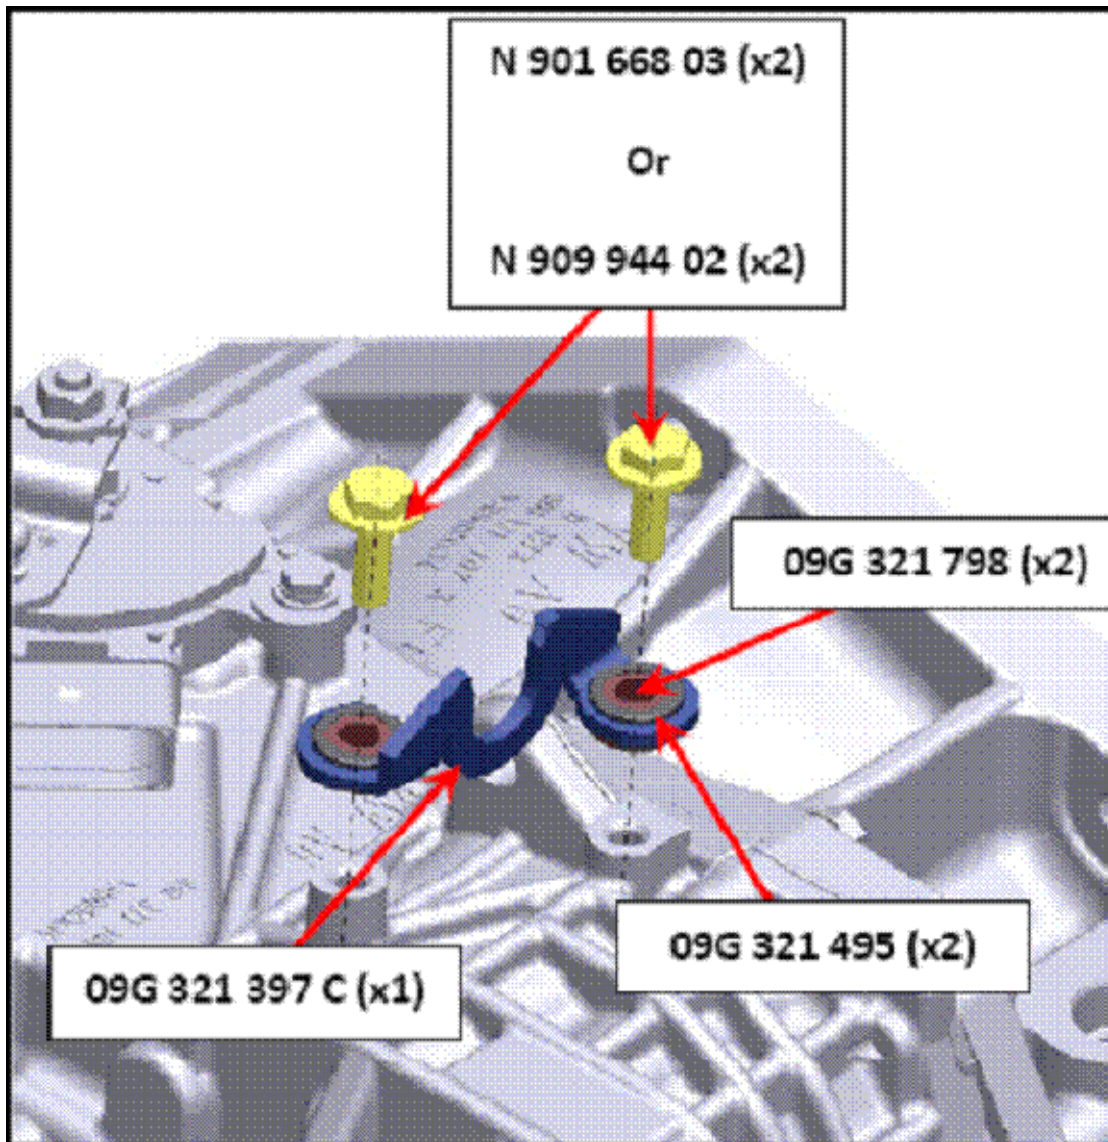

Figure 3
- Install front shifter cable bracket Part No. 09G 321 397 C (1), grommets 09G 321 798 (2), sleeves 09G 321 495 (2) and bolts Part No. N 901 668 03 (2) **Or** Part No. N 909 944 02 as indicated in figure 3.